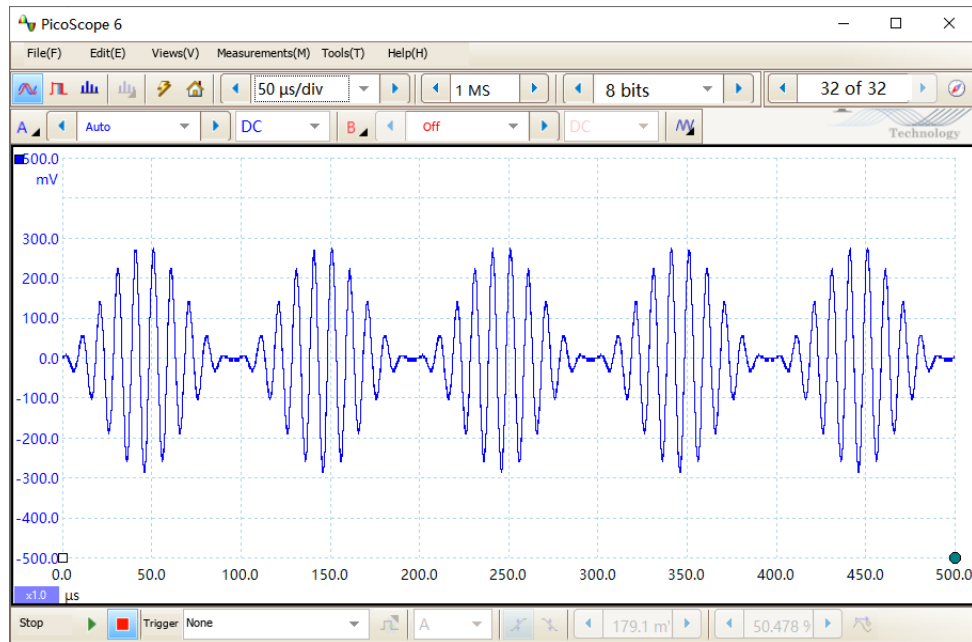

Figure 99. Waveform of the AM Signal
1. Set the function generator to AM modulation mode. Set a 100 kHz, 200 mV_{rms} sine wave as the carrier, and set a sine wave with a frequency of 10 kHz and a modulation depth of 100% as the modulating signal. Note that in the AM modulation mode of the function generator, regardless of the modulation depth setting, the carrier amplitude is reduced by half. For example, when the current setting is 200 mV_{rms}, the actual amplitude is only 100 mV_{rms}. The waveform output from the function generator is shown in Figure 99.